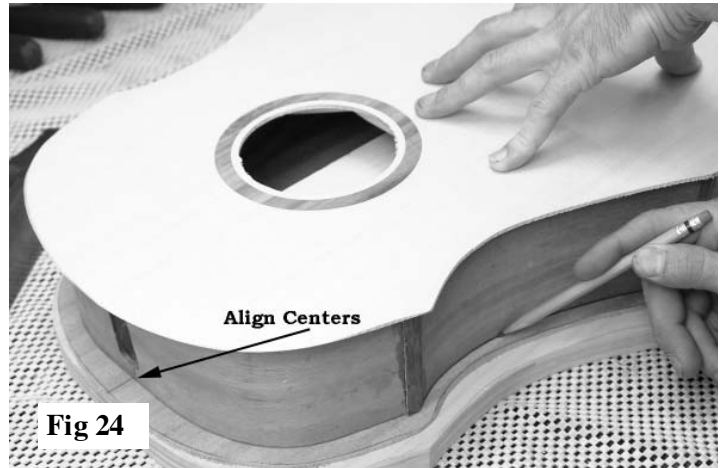

Fig 22
22. When the soundboard is dry, remove the clamps and turn the instrument over so you can start working on kerfing for the back edge. Begin by leveling the edges of the ribs and corner blocks, using your long flat sanding block (fig 22).